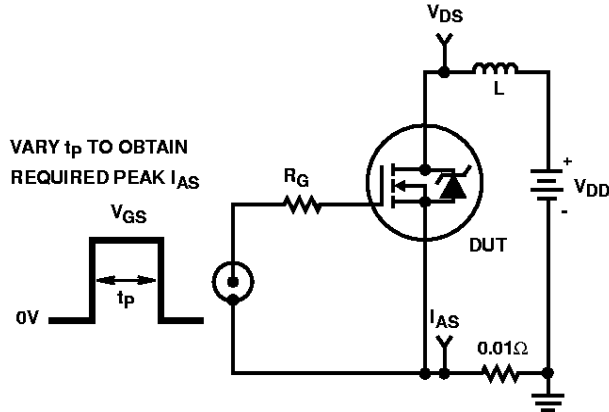

FIGURE 15. UNCLAMPED ENERGY TEST CIRCUIT
4.  $V_{DD} = 25\text{V}$ , starting  $T_J = 25^\circ\text{C}$ ,  $L = 640\text{mH}$ ,  $R_G = 25\Omega$ , peak  $I_{AS} = 9.2\text{A}$ . See Figure 15, 16.